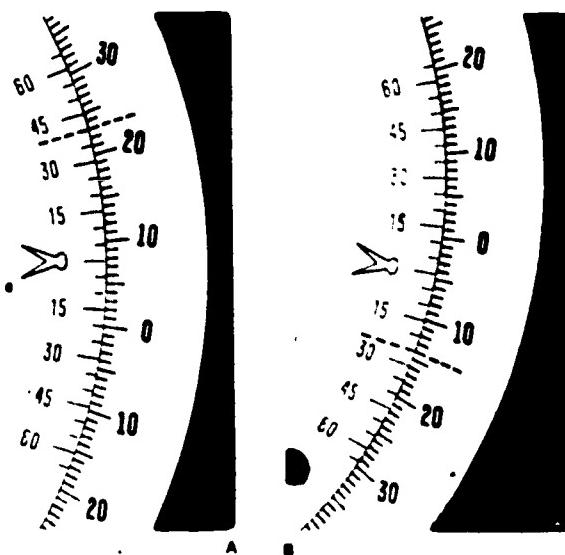

FIGURE 1
3. Slide the "0" on the vernier up or down the protractor until it lines up with the degree mark needed on the protractor (Figure 1-a)
(NOTE: The correct reading is  $7^{\circ}40'$ . The procedure is the same when reading negative (downward); in this case the reading is  $4^{\circ}25'$ . Refer to Figure 1-b.)